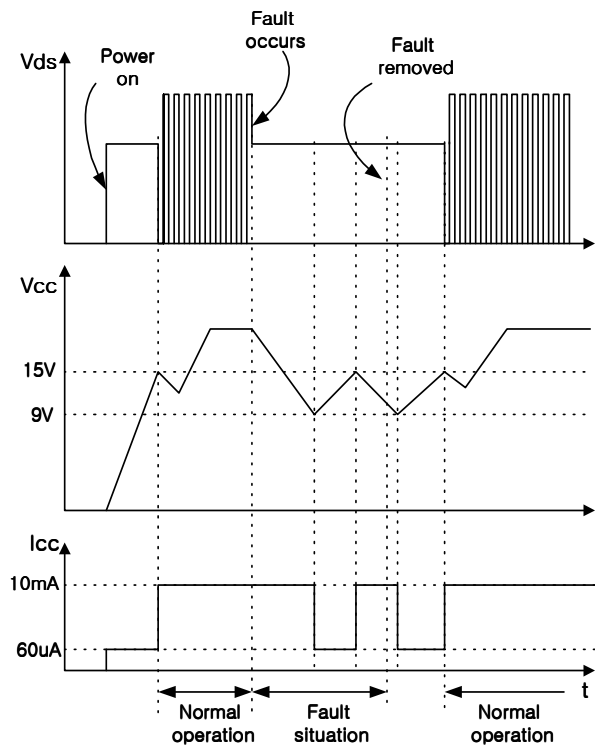

Figure 3. Auto restart operation after protection
3. Protection Circuit : Besides pulse-by-pulse current limit, the FS6X1220RT has 3 self protection functions; over load protection (OLP), over voltage protection (OVP) and thermal shutdown (TSD). Because these protection circuits are fully integrated into the IC without external components, the reliability can be improved. In the event of these fault conditions, FS6X1220RT enters into auto-restart operation. Once the fault condition occurs, switching operation is terminated and MOSFET remains off, which causes Vcc to be reduced. When Vcc reaches 9V, the protection is reset and the supply current reduces to 60 μ A. Then, Vcc begin to increase with the current provided through the start-up resistor. When Vcc reaches 15V, FS6X1220RT resumes its normal operation if the fault condition is removed. In this manner, the auto-restart alternately enables and disables the switching of the power MOSFET until the fault condition is eliminated as illustrated in figure 3.